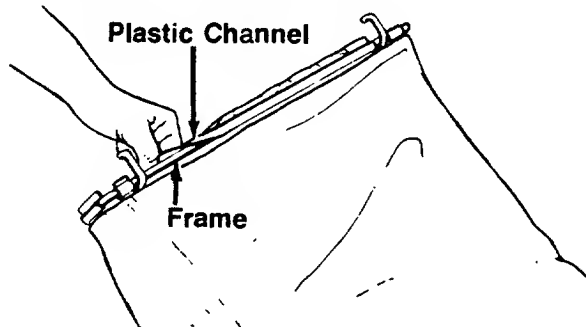

FIGURE 14.
3. Secure front of bag to frame by working the plastic channels on bag over frame. See figure 14.